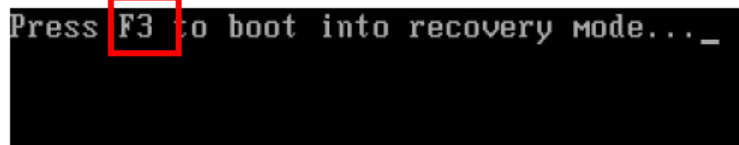

Figure A-10: Press F3 to Boot into Recovery Mode
**Step 1:** Turn on the system. When the following screen displays (**Figure A-10**), press the <F3> key to access the recovery tool. The message will display for 10 seconds, please press F3 before the system boots into the operating system.